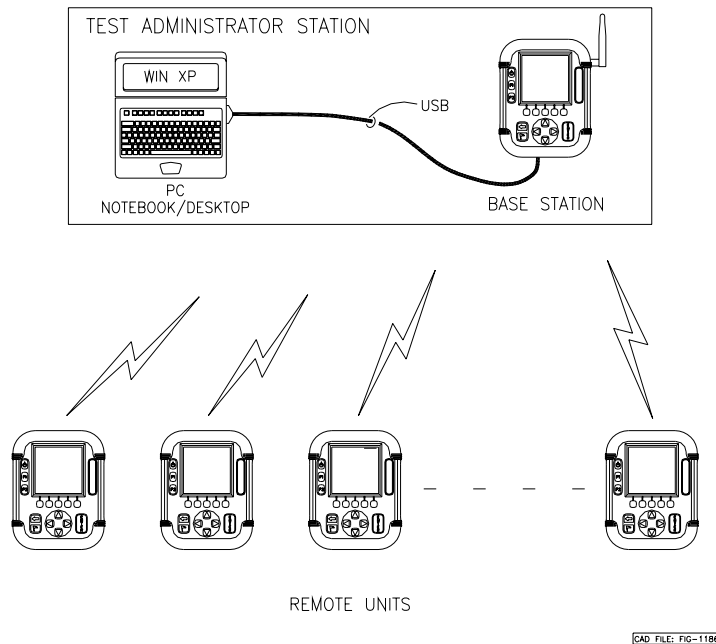

Figure 1. IRespond System Operation
2.0 System Overview. The IRespond System consists of a single base station, thirty hand held remote modules and a software package which executes on a personal computer (PC) with a Windows XP operating system. The software package administers tests and questions from the instructor's PC to the individual remote users. The handheld units communicate over a wireless Radio Frequency (RF) link to a base station and utilize rechargeable batteries for "no wires" operation. Figure 1. illustrates the IRespond System operation.